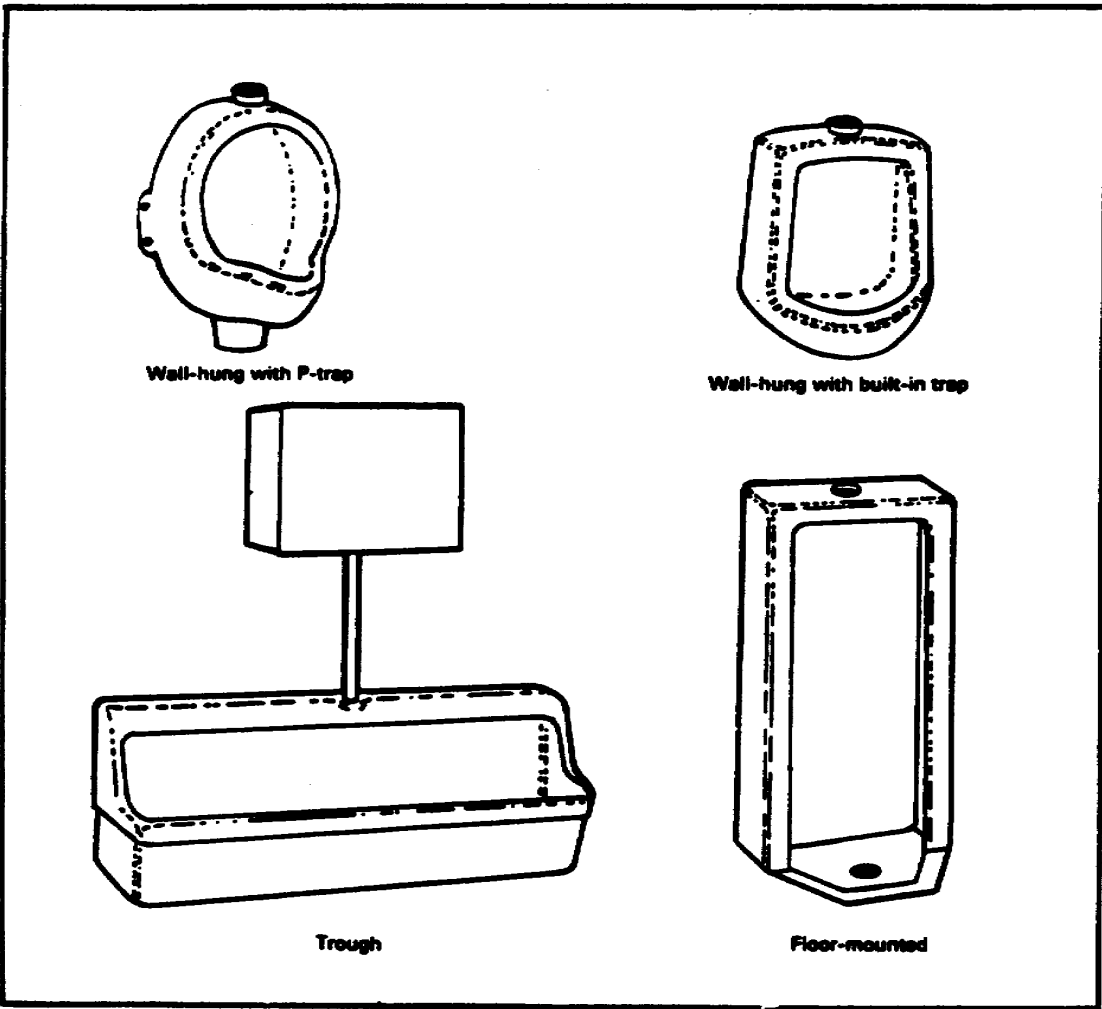

FIGURE 36. URINALS
*Types of flushometers for urinals.* The diaphragm type flushometer valve is mainly used to flush urinals. A piston type flushometer can also be used (see Figure 36).